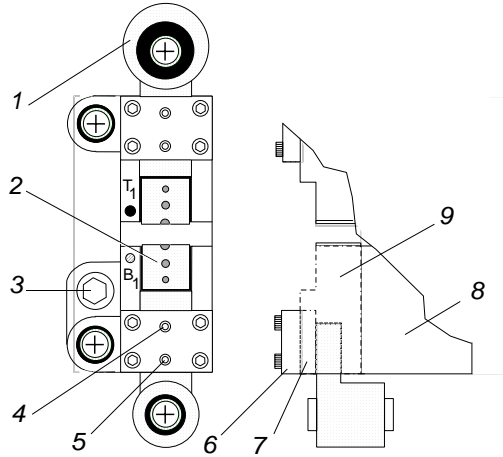

Figure 20 Die Block Assembly Slide Clearance
1. Remove die block assembly. Station 1 die block assembly is illustrated in Figure 20.
- b. Raise die block approximately 1" (25.40 mm) from machine upright plate using machine's die block adjusting plate using machine's die block adjusting bolt (Figure 20, Item 3).
- a. Remove and discard set screws in cover plate (Figure 20, Item 6).
- a. Loosen cover plate's inner set screw (Figure 20, Item 4) approximately a quarter turn.